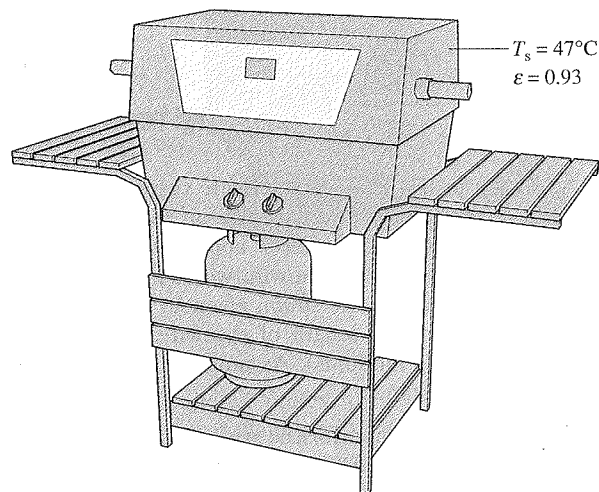

Fig. P2.55
- 2.55 The outer surface of the grill hood shown in Fig. P2.55 is at 47°C and the emissivity is 0.93 . The heat transfer coefficient for convection between the hood and the surroundings at 27°C is $10 \text{ W/m}^2 \cdot \text{K}$. Determine the net rate of heat transfer between the grill hood and the surroundings by convection and radiation, in kW per m^2 of surface area.